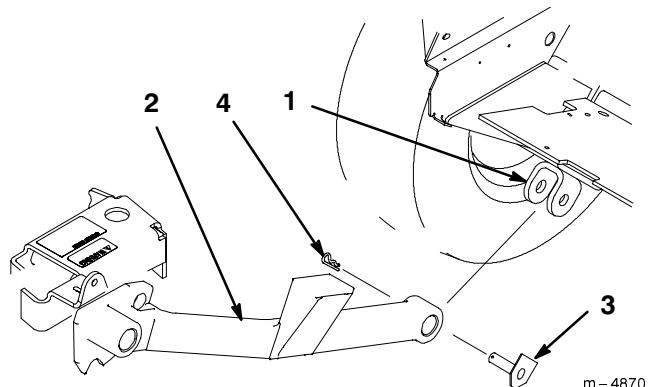

Figure 27
12. Remove hairpin coppers and pivot pin assemblies from push arms at traction unit pivot brackets (Fig. 27).